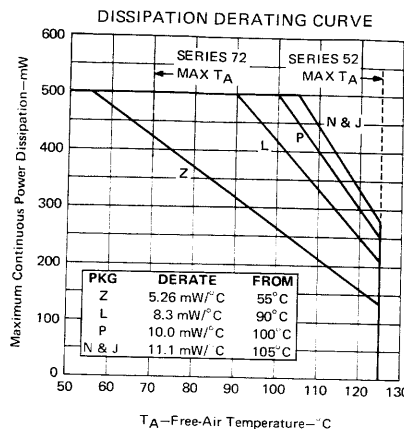

FIGURE 1
5. For operation above 55°C free-air temperature, refer to Dissipation Derating Curve, Figure 1.